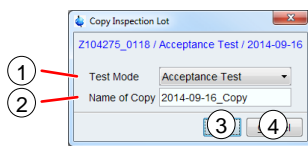

Figure 5-53: Navigation context menu – Copy Inspection Lot dialog
In Inspection Lot context menu click **Copy Inspection Lot** (2) to copy an Inspection Lot including its experiment specifications to a new one. The new Inspection Lot can be assigned to a different **Test Mode**. This way, e.g. specifications of an Acceptance Test can be applied to a Service Test. No experiment data and results will be copied. A subsequent dialog (Figure 5-53) opens up.
Select the **Test Mode** (Figure 5-53 (1)) for the copy. Enter an individual **Name of Copy** (Figure 5-53 (2)) (see chapter 2.2, **permitted characters**). The source name supplemented with “\_Copy” is suggested as a default (see Figure 5-53). Click **OK** (Figure 5-53 (3)) to confirm and finish the copy process. Click **Cancel** (Figure 5-53 (4)) to abort copying the Inspection Lot.